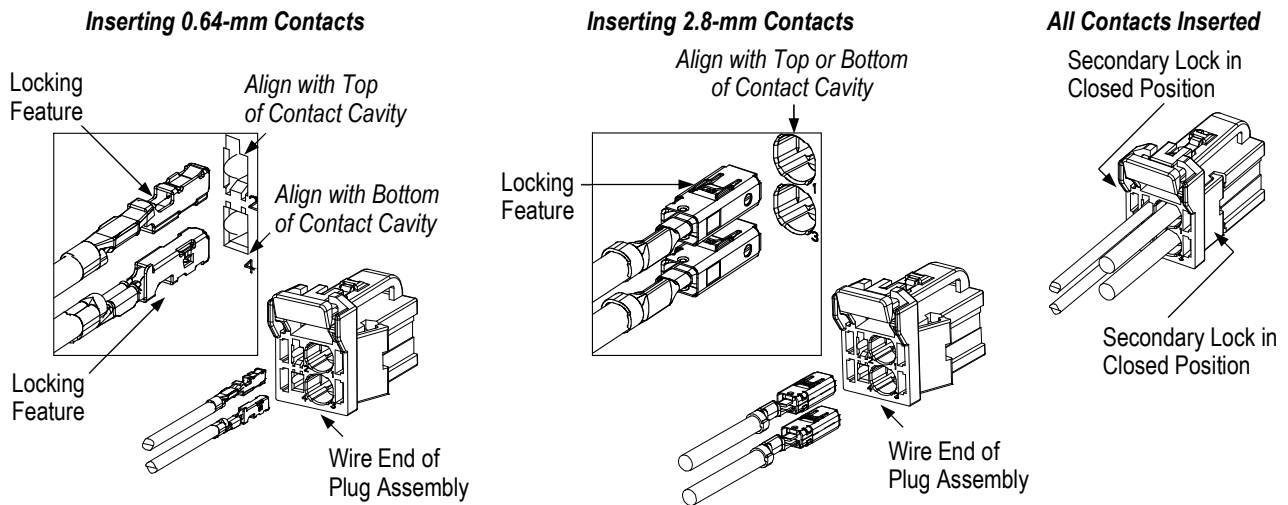

Figure 3
3. From the wire end of the plug assembly, align the contact with the appropriate contact cavity as shown in Figure 3. Insert the contact into the contact cavity until it stops. There should be an audible and tactile click.